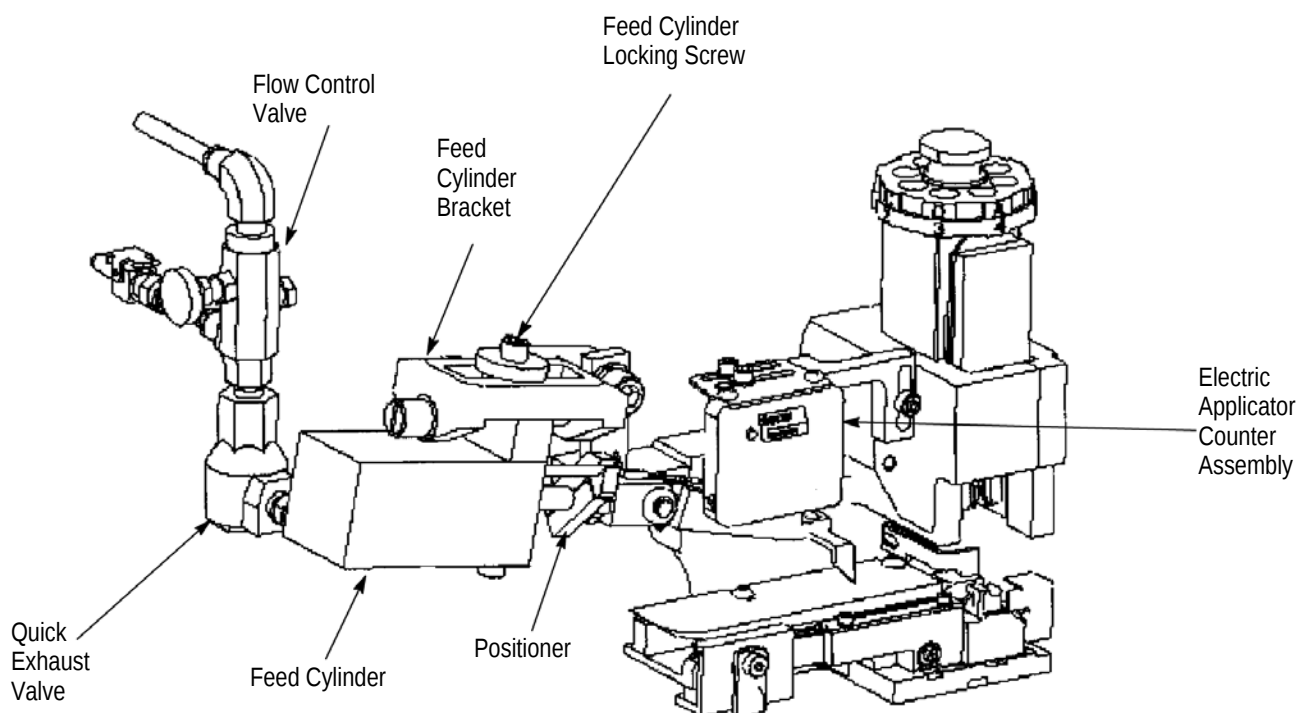

Figure 4
b. Applicator with air-feed systems (Figure 4) -
- 1) Loosen slightly the feed cylinder locking screw on top of feed cylinder bracket (see Figure 4).